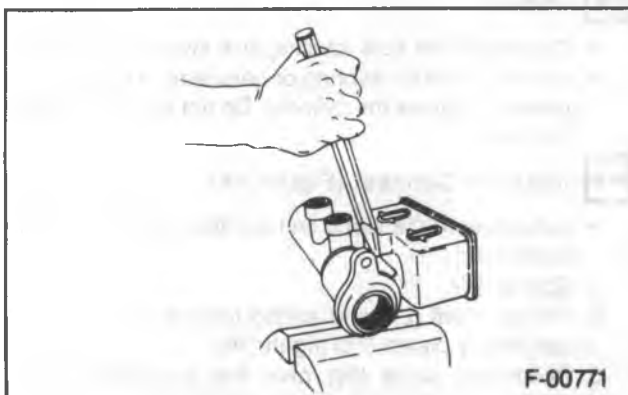

Figure 11—Removing the Reservoir
1. Cover (1).
2. Diaphragm (2).
3. Reservoir (3) and grommets (4) (figure 11).
4. Snap ring (11).
5. Primary piston assembly (12).